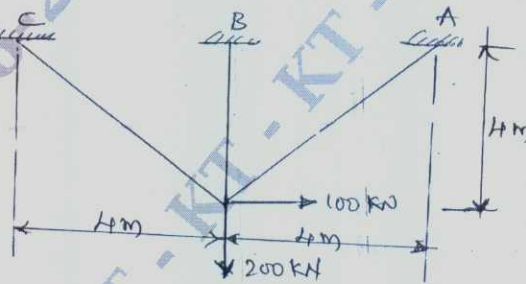

Fig. Q8
- 8 Analyse the pin jointed truss shown in Fig. Q8 by flexibility matrix method and determine the forces in the members. Take force in the number OA is redundant. (20 Marks)